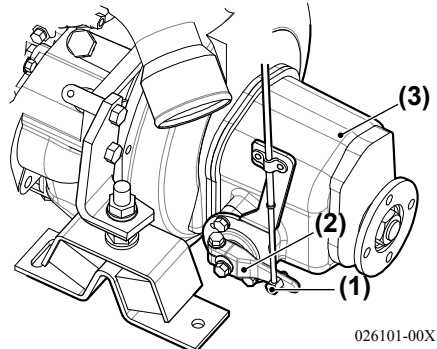
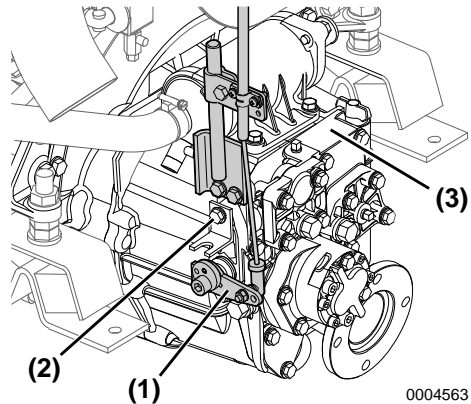

Figure 7
Figure 8
1. Ensure that the remote control lever (**Figure 7, (2)**) or (**Figure 8, (1)**) moves to the correct position when the remote control handle is in the NEUTRAL, FORWARD and REVERSE positions. Use the NEUTRAL position as the standard for adjustment.
- To adjust, loosen and retighten the cable fitting (**Figure 7, (1)**) or (**Figure 8, (2)**).